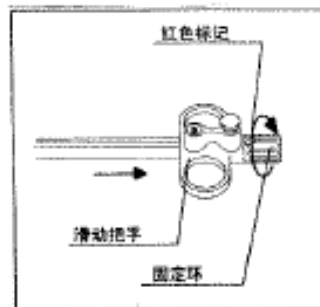

Fig 3.1
1. Circumvolve the retaining ring of the general handle until the blue mark appears (see fig. 3.1)
2. Move the sliding handle to the retaining ring (see fig. 3.1)